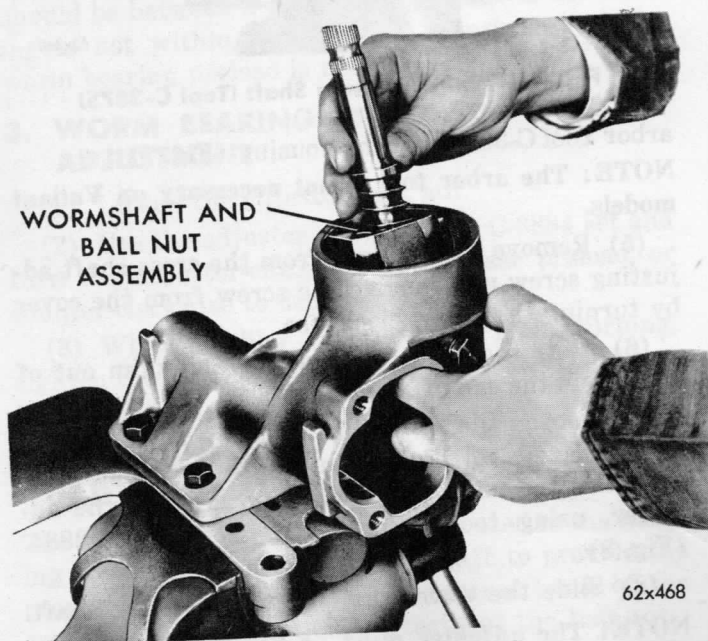
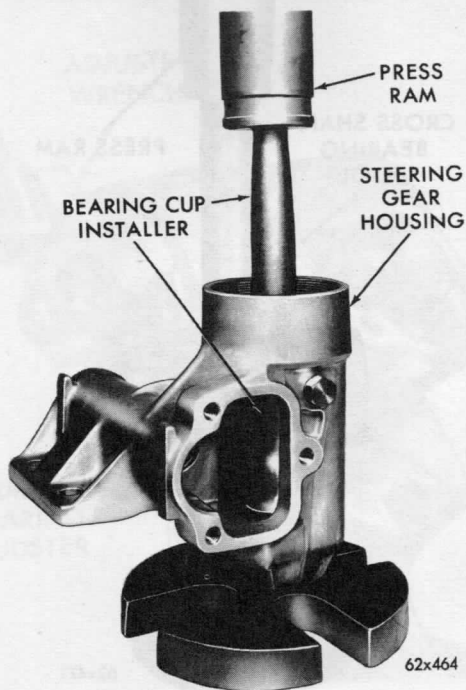

Fig. 9—Removing Wormshaft and Ball Nut Assembly
Fig. 13—Installing Lower Wormshaft Bearing Cup
(9) Carefully remove the worm and ball nut assembly (Fig. 9).
(3) Install the wormshaft bearing cups, position the cups in the housing and bearing adjuster nut. Then press them in place with Tool C-3865 (Figs. 13 and 14).
(4) Install the wormshaft oil seal by positioning the seal in the wormshaft adjuster with lip of seal up. Drive the seal into place with a suitable sleeve so it is slightly below the end of the bore in the adjuster.
(5) Apply a coating of steering gear grease to all moving parts during assembly, also place grease on and around oil seal lips.
(6) Clamp the holding fixture and housing in a vise with the bearing adjuster opening upward.
(7) Place a thrust bearing in the lower cup in the housing.
(8) Hold the ball nut from turning (Fig. 9), and insert the wormshaft and ball nut assembly into housing with end of worm resting in the thrust bearing.